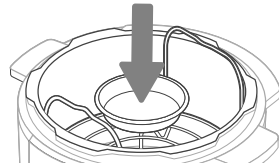

Figure 9.4
2. Insert the steam rack and place items on the steam rack. [Figure 9.4]